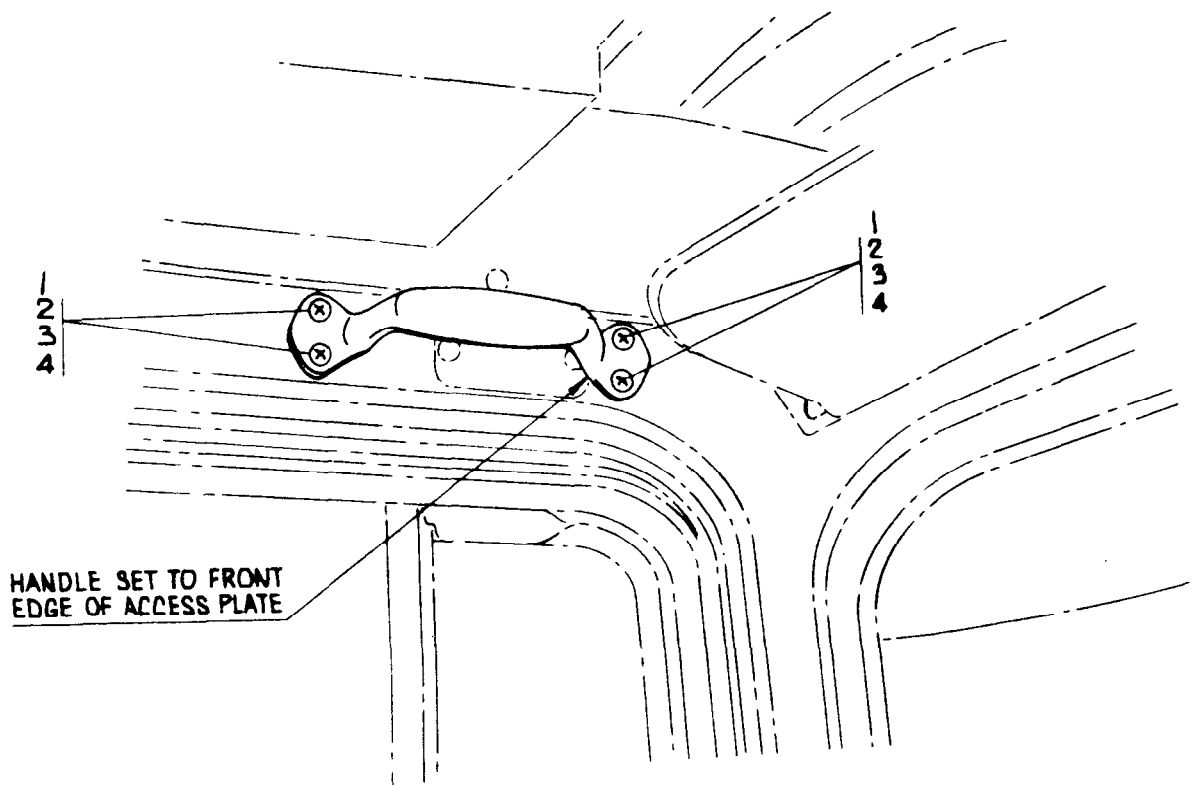

FIG 1 - POSITION OF GRAB HANDLE
- a. Hold the grab handle, item 1 from Table 1, in the position shown in Fig 1 and mark out the hole centres.